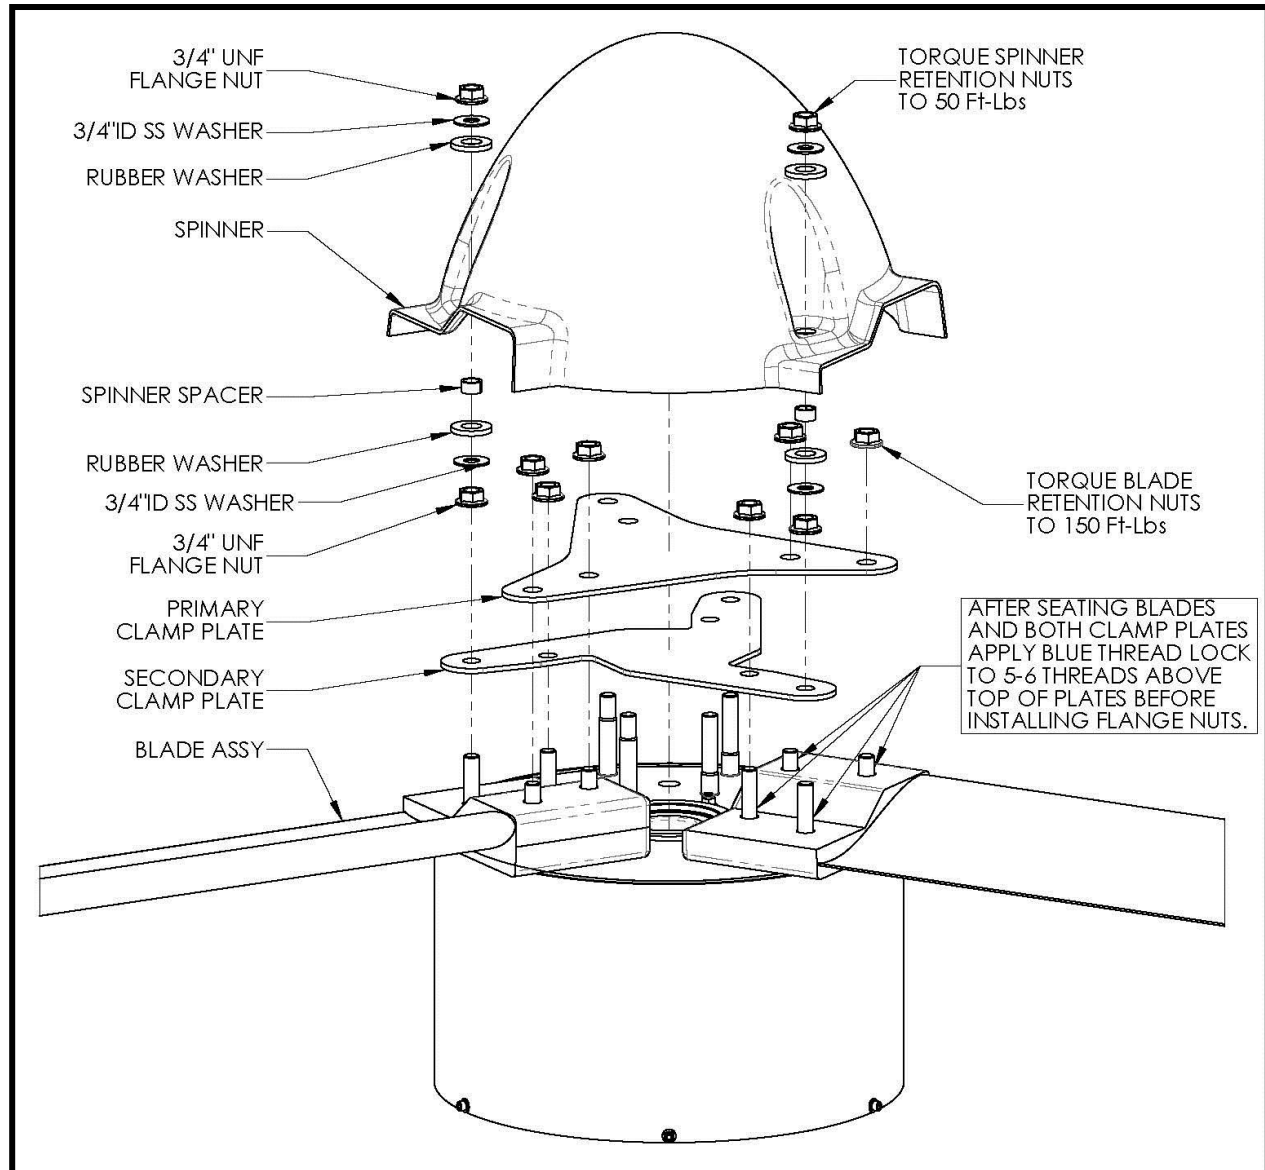

Figure 14: Assembly of Blades, Clamp Plates and Spinner
2. Reposition the truck to back straight in under the alternator, so the tail gate or bed is positioned as a convenient work stand to install the rotor blades. Attach the three blades to the powerhead as shown in **Figure 14**, with the hardware provided in the Blade and Spinner Hardware Kit (HK0003). The contents of HK0003 are shown in **Table 5**.
4. Attach the spinner to the powerhead as shown in **Figure 14**, making sure that all hardware is ordered and positioned properly. The recommended procedure is as follows:
- a. Pre-assemble a stainless washer, rubber washer and stainless steel spacer in proper configuration (shown in **Figure 14**), fastened together with a small amount of silicone caulk. **Be sure the stainless spacer is *inside* the rubber washer and against the stainless washer.** Be sure the inner diameters of the stainless washer and spacer are properly aligned. Do this ahead of time for three separate assemblies, and use them when you are ready to attach the spinner.